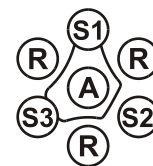

Figure 2.
1. **Negative:** The reference positive control lines continue into the test sample well without bending or with a slight bend away from the antigen well (A) and toward the positive control serum (Figure 2, S1, negative sample).
2. **Positive:** Control lines join with and form a continuous line with the line between the test serum (S2) and antigen (A) (Figure 2).
3. **Weak Positive:** The reference positive control lines bend slightly toward the antigen well (A) and away from the reference positive control serum wells (R) but do not form a complete line between antigen (A) and test serum (S3) (Figure 2). These reactions require careful observation and can be easily overlooked. All weak positive samples should be retested before reporting the results.